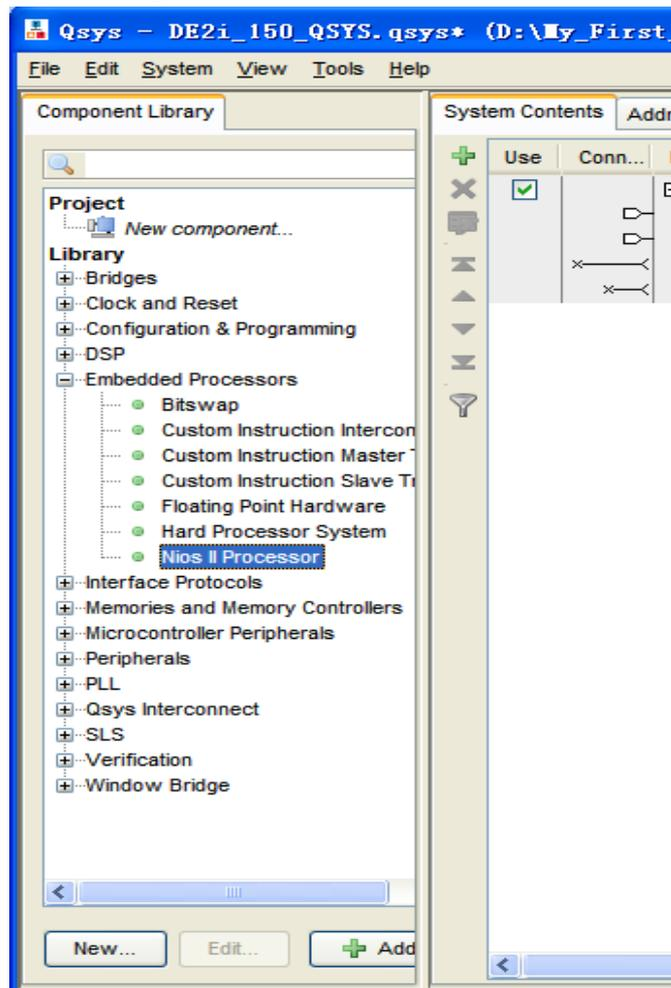

Figure 1-15 Add Nios II Processor
9. Choose Library > Embedded Processors > Nios II Processor to open wizard of adding cpu component. See Figure 1-15 and Figure 1-16.